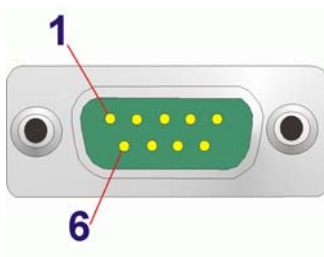

Figure 3-27: Serial Port Pinouts
- CN Pinouts:** See **Table 3-25** and **Figure 3-27**